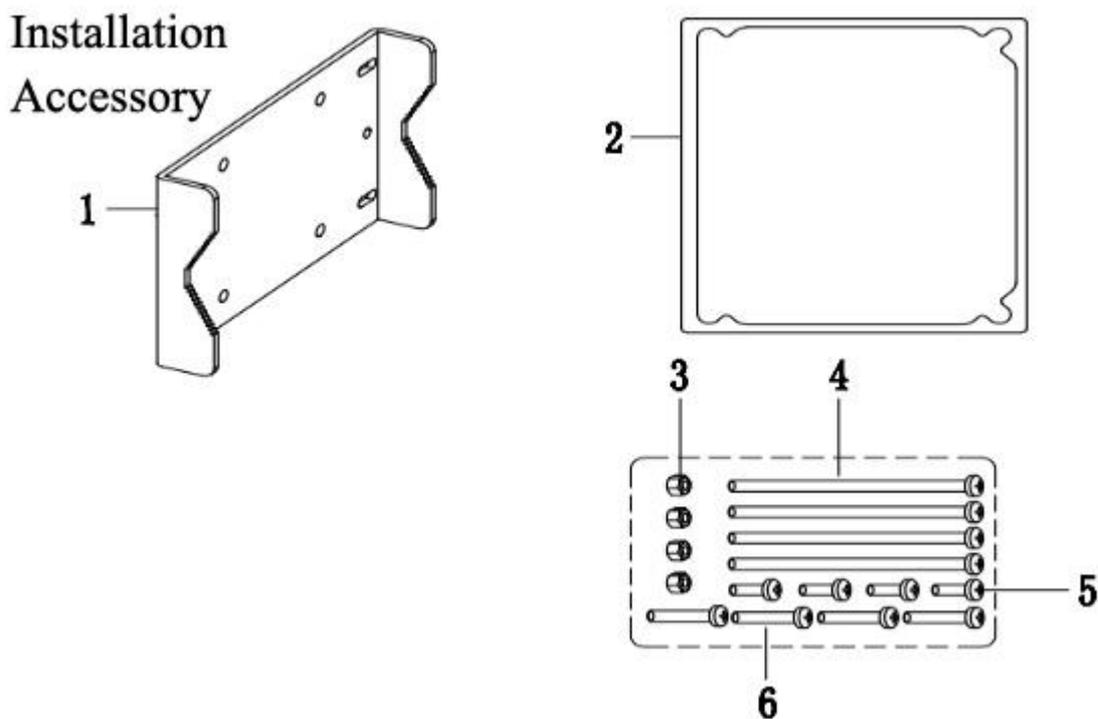

Figure 2 Installation Components
① **Figure 2 shows the transmitter installation components.**